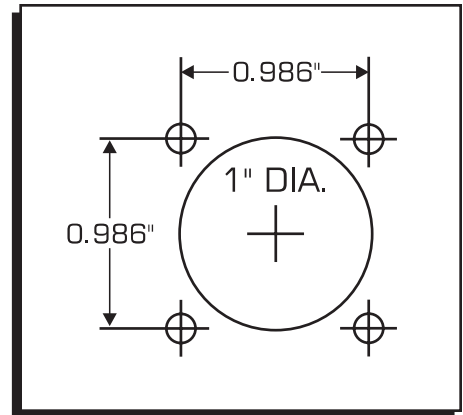

Figure 1
3. Place the Firewall Feed-Thru in the 1" hole and mark the centers of the 4 mounting holes. You may also use Figure 1 as a template. Remove the Firewall Feed-Thru.